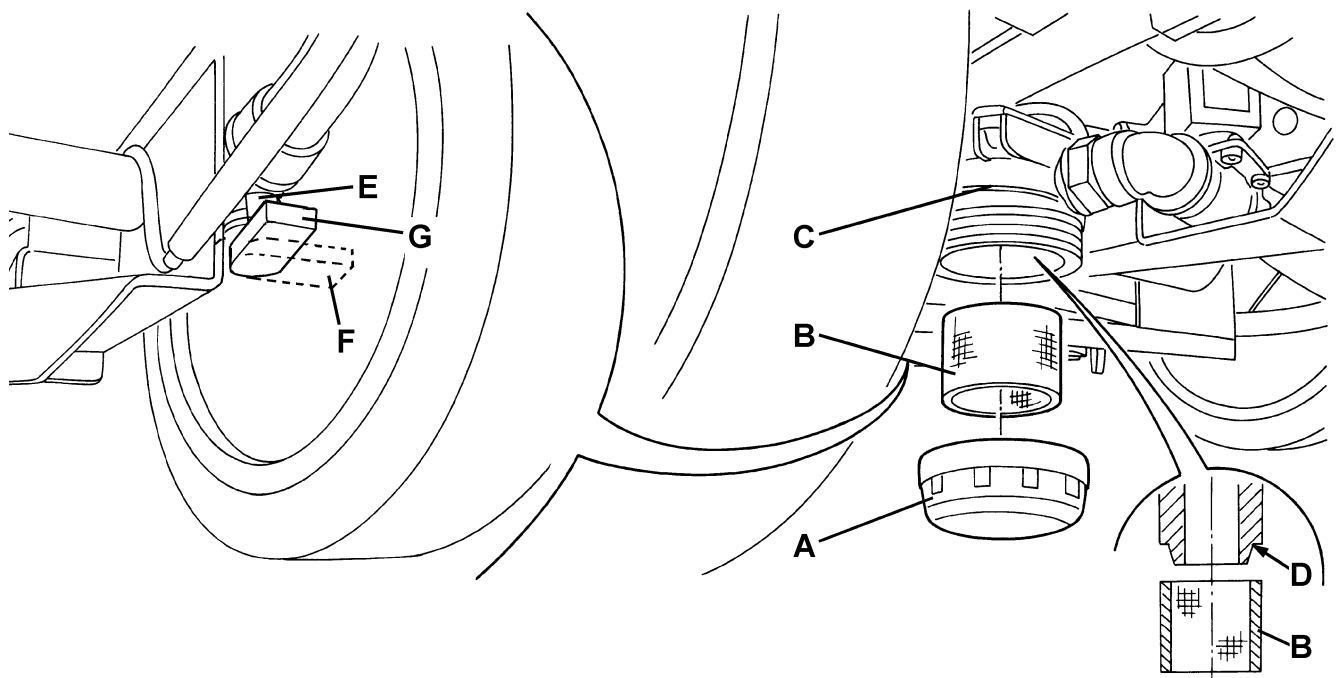

Figure 6
2. Turn the ignition key (42) to "0".
3. Close the solution valve (E, Fig. 6) under the machine, behind the right rear wheel. The valve (E) is closed when it is on the position (F) and it is open when it is on the position (G).
4. Remove the transparent cover (A), then remove the filter strainer (B) under the machine in front of the right rear wheel. Clean and reassemble the components on the support (C).